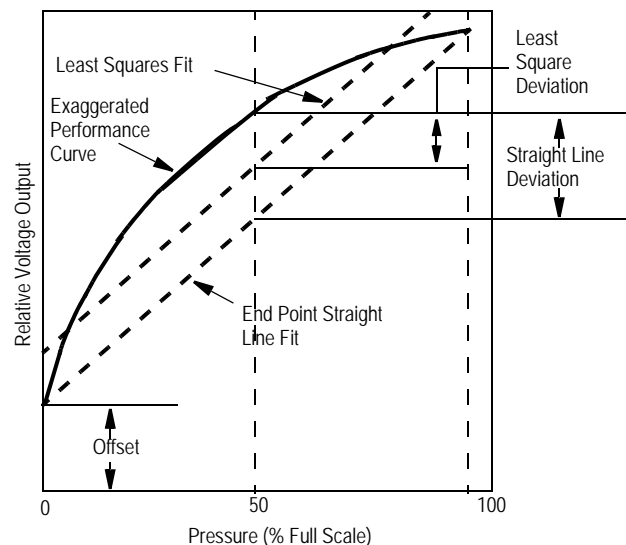

Figure 4. Linearity Specification Comparison
Linearity refers to how well a transducer's output follows the equation:  $V_{out} = V_{off} + \text{sensitivity} \times P$  over the operating pressure range. There are two basic methods for calculating nonlinearity: (1) end point straight line fit (see Figure 4) or (2) a least squares best line fit. While a least squares fit gives the "best case" linearity error (lower numerical value), the calculations required are burdensome.